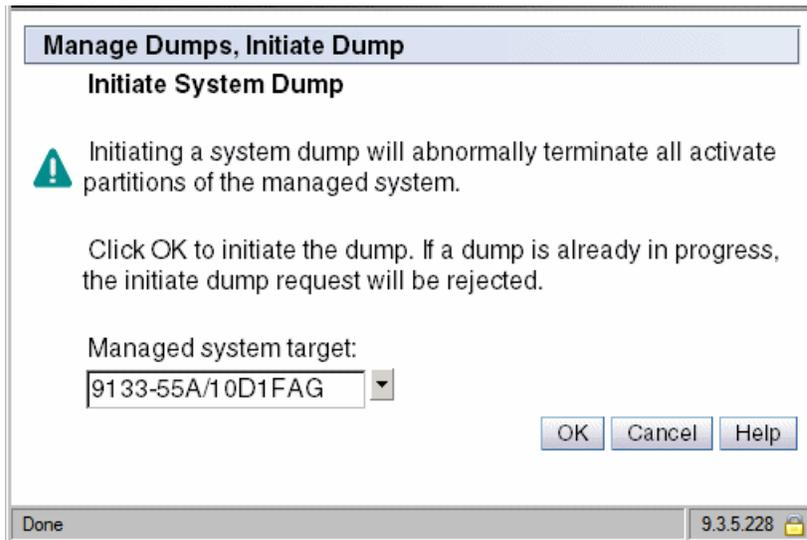

Figure 12-18 Service Management, initiate system dump
- Specify the system where you want to initiate the dump (Figure 12-18). Verify the selected server, and then select **OK**.